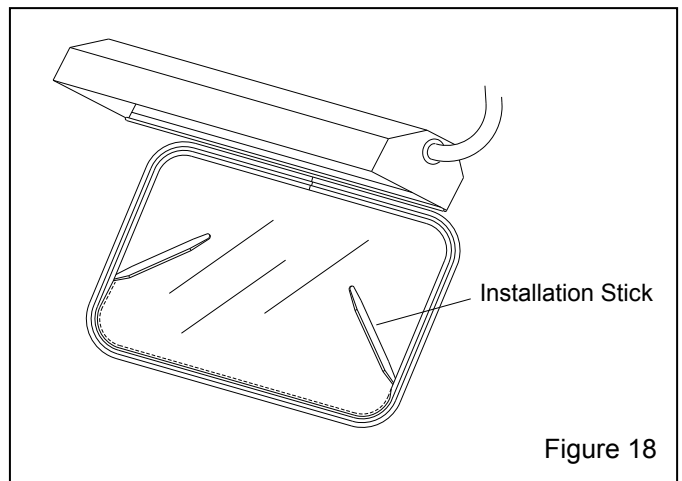

Figure 18
6.4.7 Use a nylon window installation stick, Stock No. 22933, as shown in Figure 18, and work the window channel lip over the glass. When this is done, the window should be entirely within the molding's window channel.